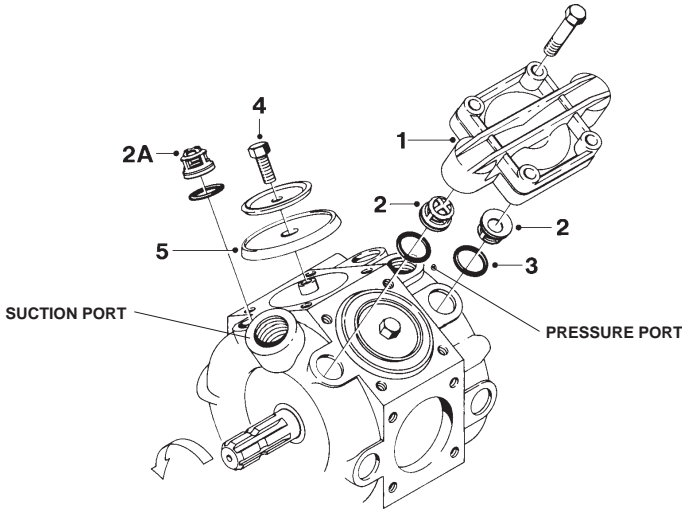

Fig. 26
Remove valve cover **(1)**. (Refer to fig. 26) Before changing the valves **(2)** note the orientation of the valves so that they are replaced correctly.
Remove the diaphragm bolt (4) (fig. 26) after having dismantled the valve cover as indicated above. The diaphragm (5) may then be changed. If fluids have reached the crankcase, regrease the pump thoroughly.